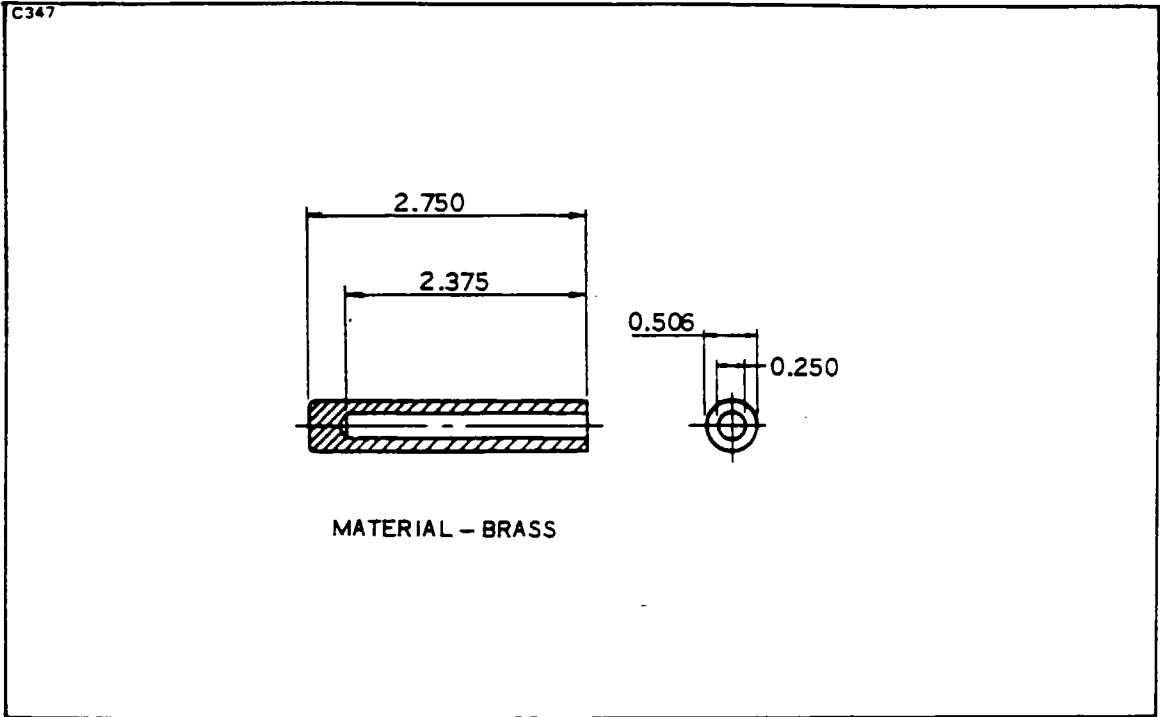

Figure 8-34. Ferrule Seating Tool
8. Provide a back up support for the cover and seat the ferrule using the 11-7074 Ferrule Seating Tool (refer to Figure 8-34) and a mallet. Ferrule must be driven straight into the cover and fully seated.